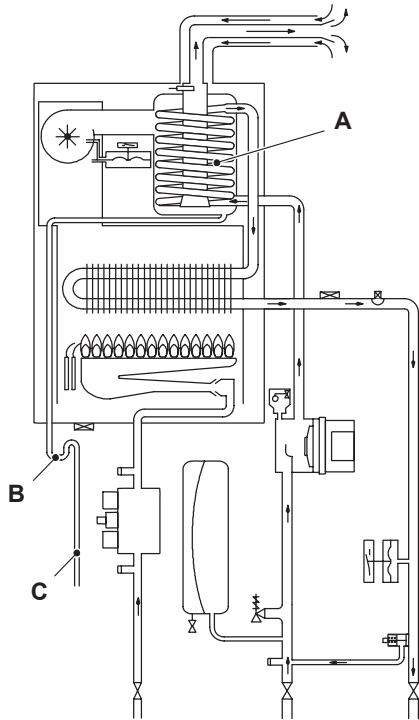
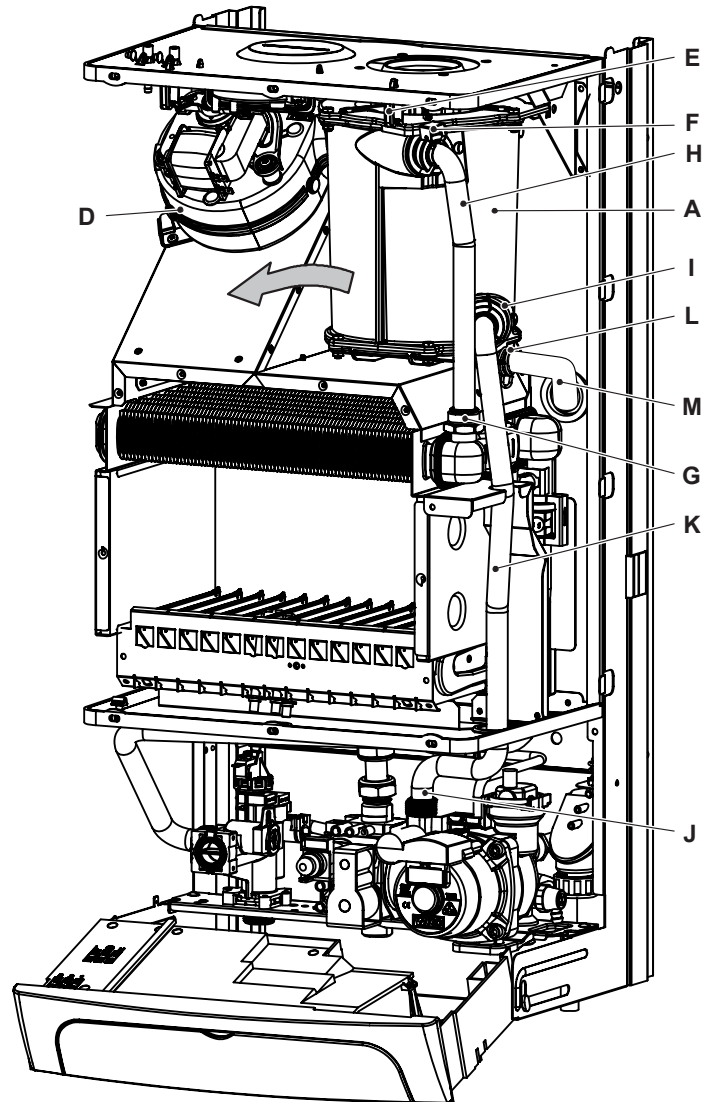

Figure 6.1
Figure 6.2
The return water flows through the condensing heat exchanger A in Figure 6.1 and Figure 6.2.
- 3 Remove the fan D in Figure 6.2 (see section "Removal of the Fan" page 31).